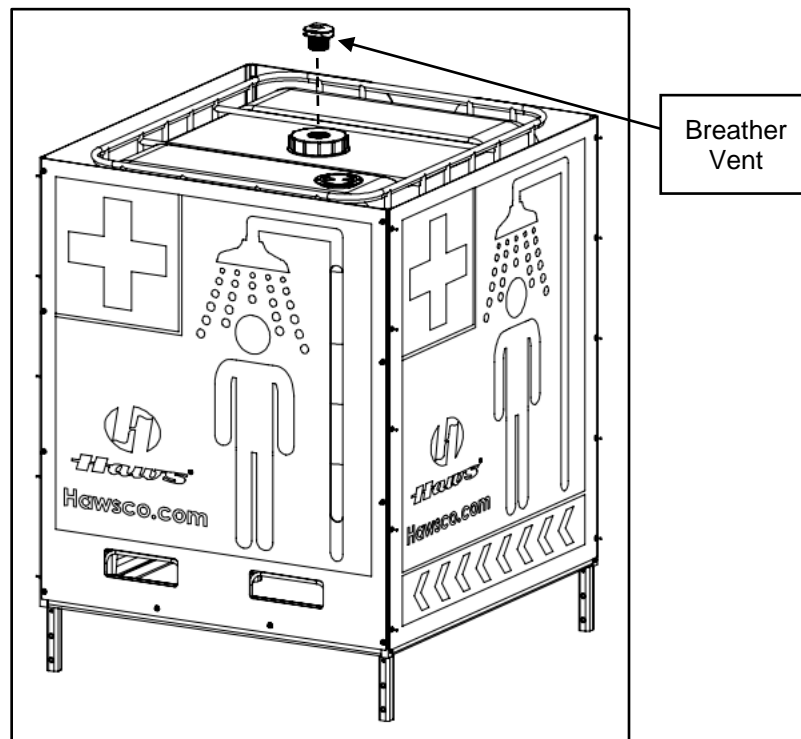

Figure 12. Installing Breather Vent (Item #19)
18. Install Tank Breather Vent (Item #19) where the shipping plug was located in the 6" cap as shown in Figure 12.